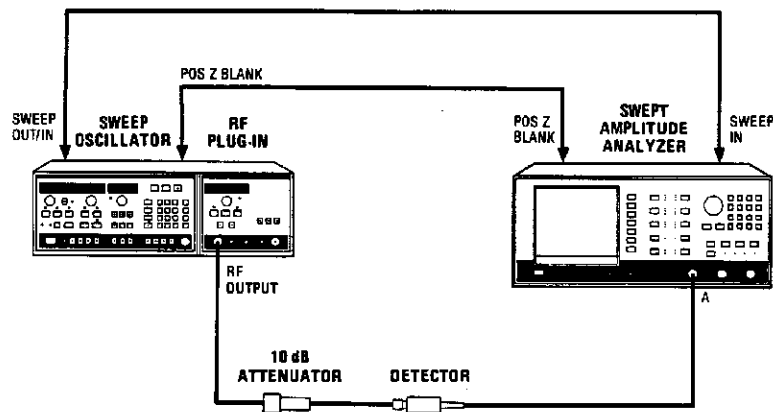

Figure 5-43. Power Sweep Test Setup
1. Connect the equipment as shown in Figure 5-43. On the Model 8350A/B, press [INSTR PRESET] [] [MOD]. Allow the equipment to warm up for one hour.